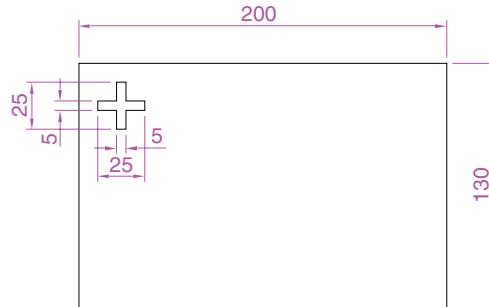

Fig. 5.3 Example – **Copy Object** – outlines
1. Construct Fig. 5.3 using **Polyline**. Do not include the dimensions.